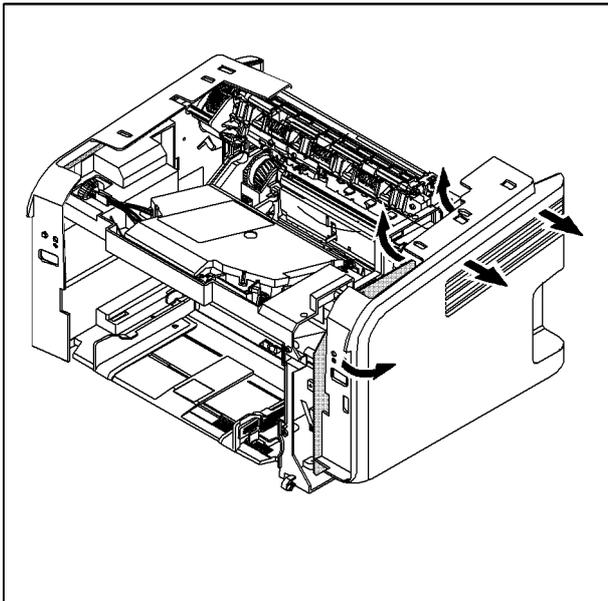

Figure 1
2. Gently flex the left cover in the direction of the arrows, then remove the left cover, Figure 1.